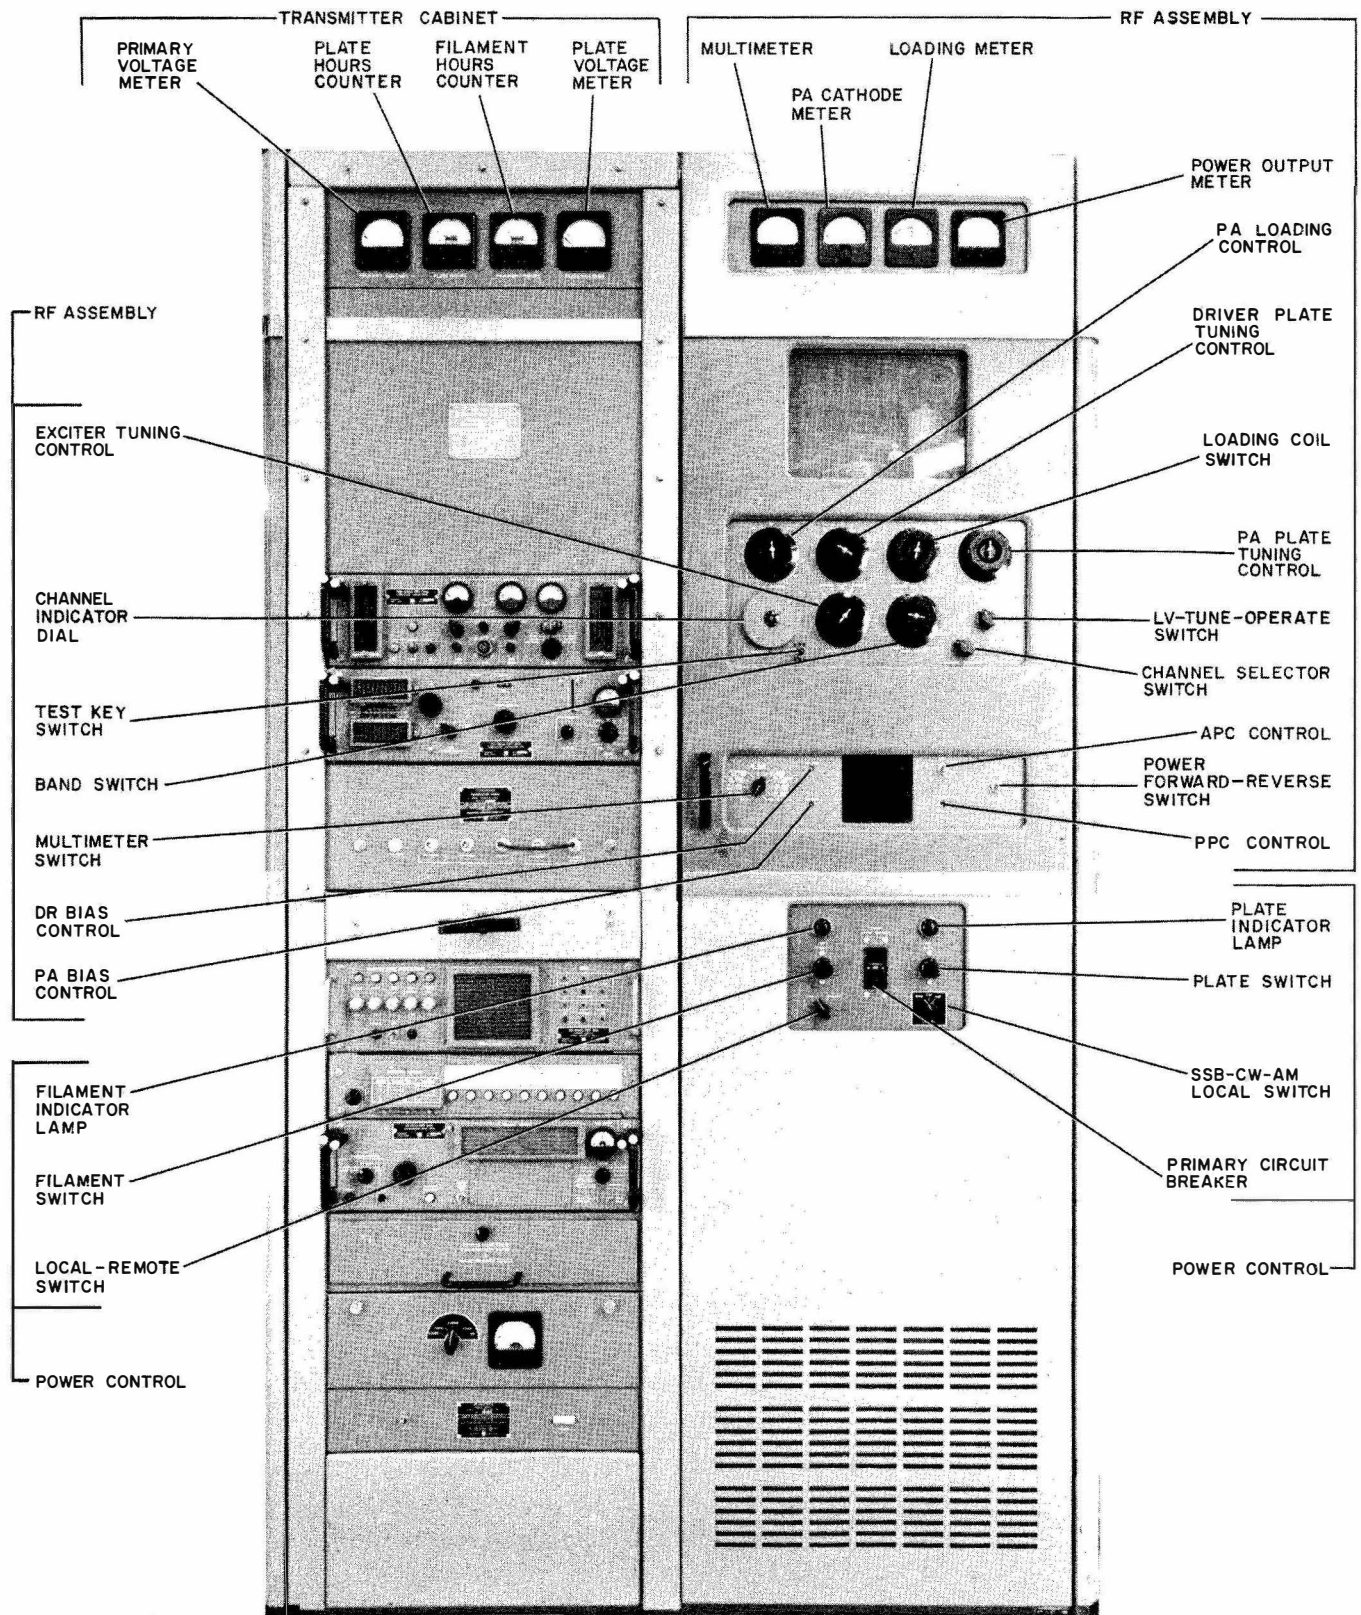

Figure 3-2. Radio Transmitter T-973/FRT-24A, Operating Control and Indicator Locations
a. **DESCRIPTION OF CONTROLS.** — The controls and indicators used during normal operation of the radio set and the function of each are listed in table 3-1. Refer to figures 3-2 through 3-10 for the physical location of each control or indicator.
POWER CONTROL (Figure 3-2)
POWER CONTROL (Figure 3-2) (Cont.)
RF ASSEMBLY (Figure 3-2)
RF ASSEMBLY (Figure 3-2) (Cont.)
TRANSMITTER CABINET (Figure 3-2)